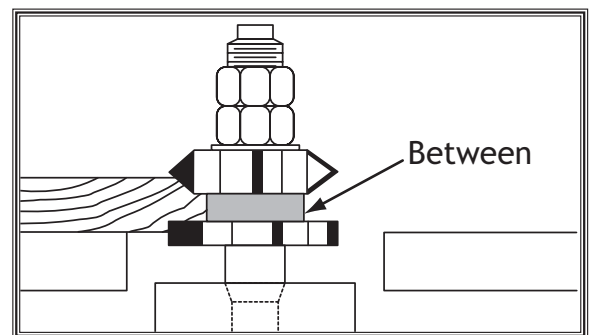

Figure 31. Rub collar mounted between two cutters.
- **BETWEEN TWO CUTTERS** as shown in **Figure 31**. This setup has the advantage of making two profile cuts in a single pass.